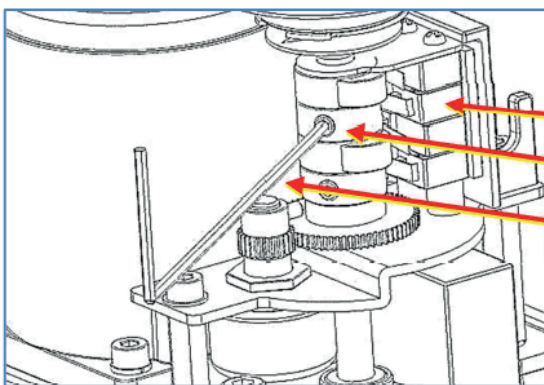

Figure 1: Close Cam Setting
- 4.3.3. Rotate the CLOSE cam towards CW limit switch lever until the switch 'clicks' (Figure 1 below).